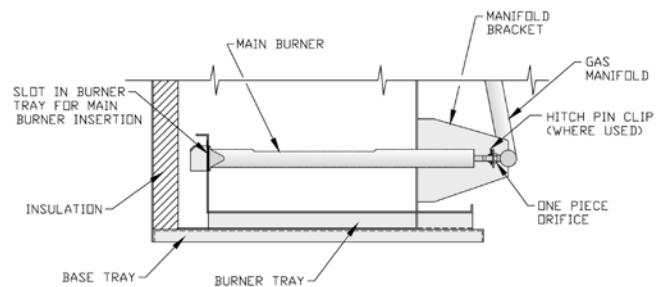

Figure 23: Main Burner Installation
- b. Main burners must be properly secured in burner tray slot at rear of firebox and over gas orifice. See Figure 23.